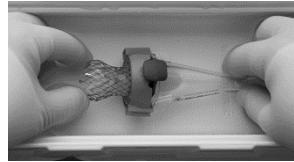

Figure 30
4. Insert the inflow portion of the bioprostheses frame into the inflow cone. Ensure that the bioprostheses frame paddle marked with a “C” is facing up and that the paddles are aligned with the paddle attachment pockets (Figure 30).